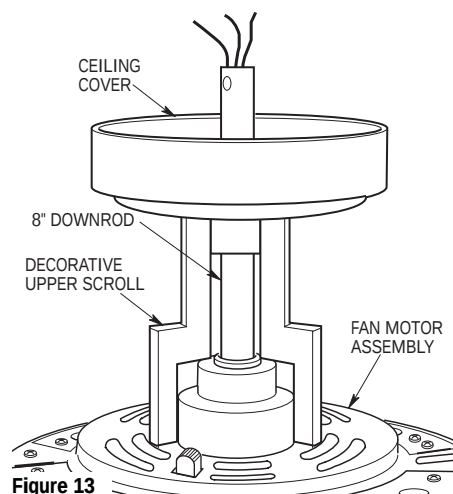

Figure 13
- **15.** Place the ceiling cover over the downrod. Be sure both the ceiling cover, decorative upper scroll (use with 8" downrod only) and coupler cover are oriented correctly (Figure 13).